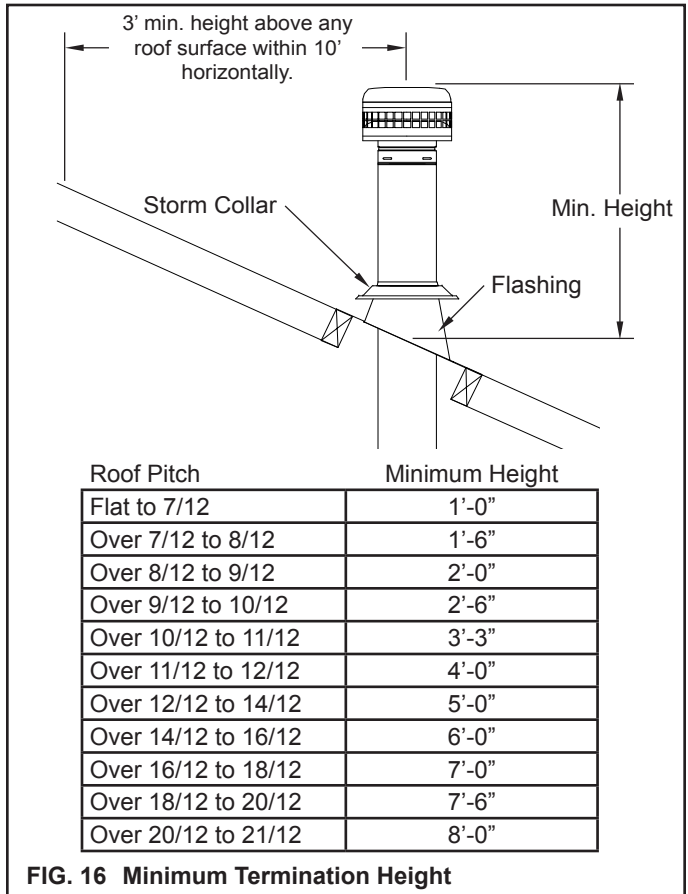

FIG. 16 Minimum Termination Height
Continue to add pipe sections until the height of the vent meets the minimum building code requirements (See **FIG. 16**). Twist-lock the Vertical Termination onto the last section of vent pipe. It is recommended to further secure the Termination to the pipe section by using two (2) sheet metal screws (#8 x 1/2"). This will help secure the Termination joint as it is exposed to high wind conditions. The screws should be located approximately 3/4" above the bottom edge of the Termination collar. Vent Pipe Sections in excess of 4 ft. above the roof should be securely guyed to prevent unnecessary movement. Attach guying to vent. Never attach guying to the cap.